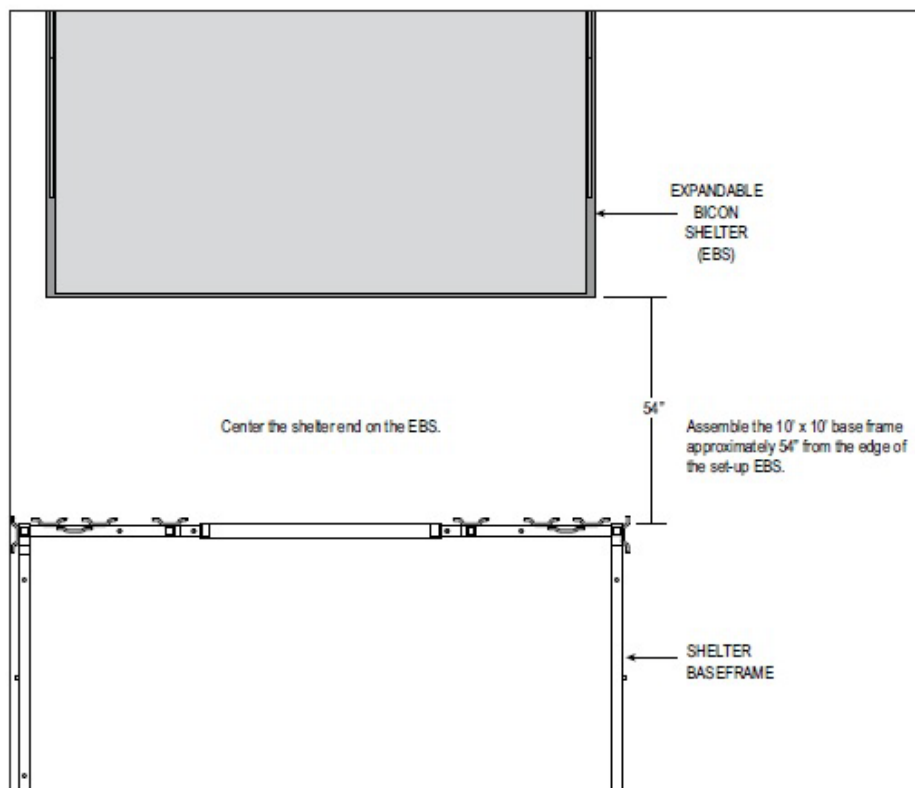
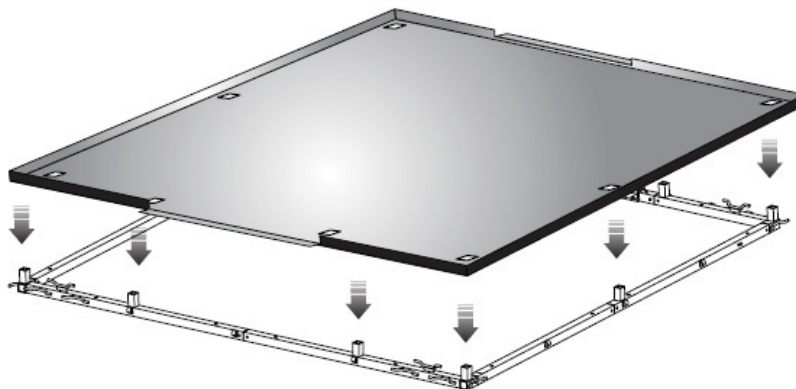

Figure 2-75. EBS centering.
Figure 2-76. Floor cutouts.
Place the assembled base frame's end section approximately 54" from the end of the EBS. Center the frame at the end of the EBS where the connector boot is located (fig. 2-75). Place the end with the center flat entry base section nearest the EBS System. Unfold the non-slip floor with the black side facing the ground. Slip the floor cutouts over the base stubs (fig. 2-76).
- Assemble the base sections in sequence as shown (fig. 2-76).